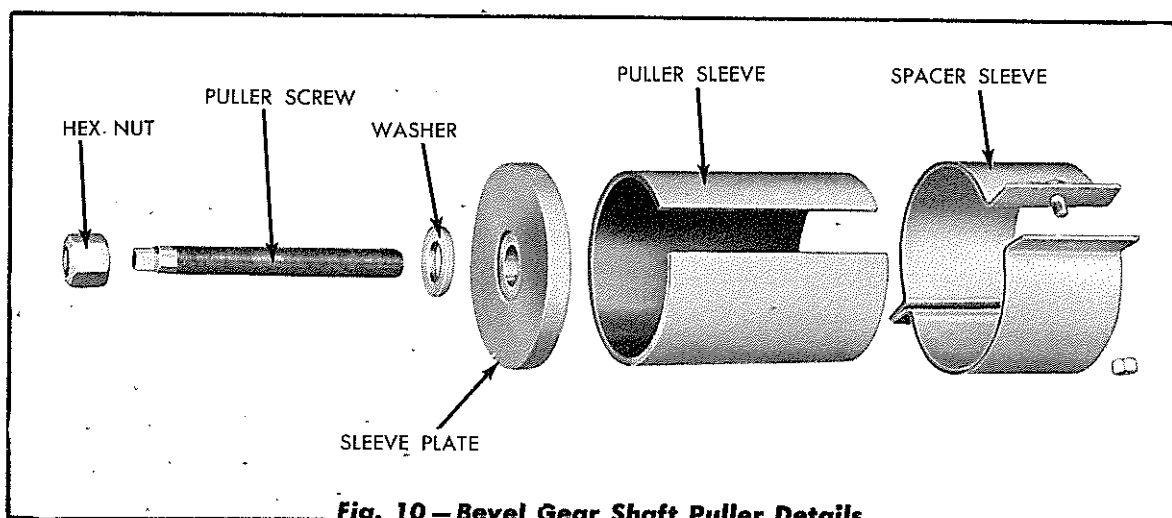

Fig. 10 – Bevel Gear Shaft Puller Details
- 5. Install a puller similar to that as shown in Figs. 10 and 11, using the split spacer sleeve between the bevel gear and the inner wall on the right side of the bevel gear compartment. Tighten the hex nut on the puller screw to pull the bevel gear shaft from the gear.